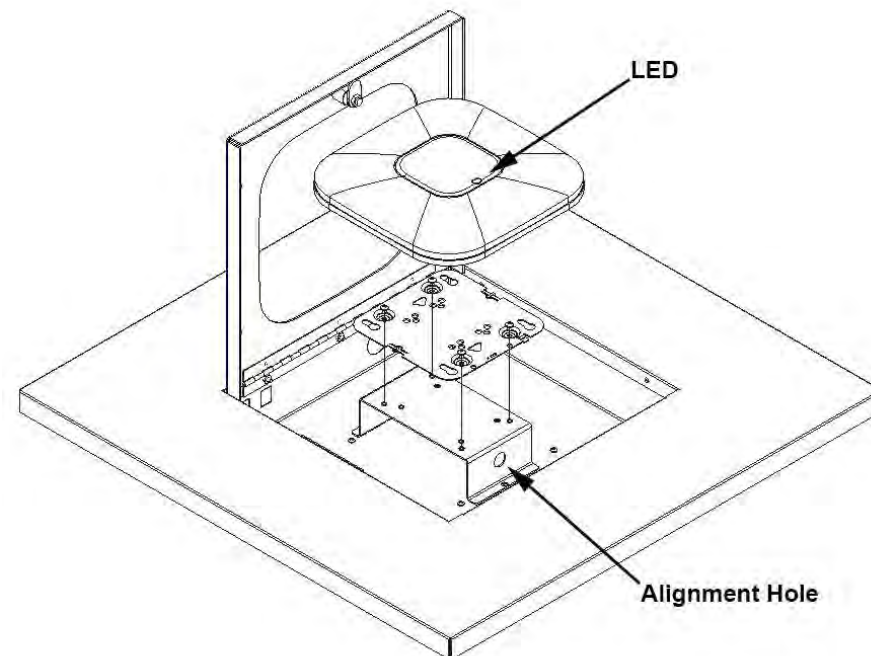

Figure 2
Step 2 – Verify that the alignment hole is facing towards the lock side of the enclosure. Install the mounting plate onto the mounting bracket using the (4) # 8-32 screws. The triangle cutouts of the mounting plate should be facing down toward the lock side of the enclosure. After the mounting plate has been installed, attach the Cisco access point so the LED is closest to the lock side of the enclosure. Slide the access point onto the mounting plate using the feet to lock it in place (Figure 2).